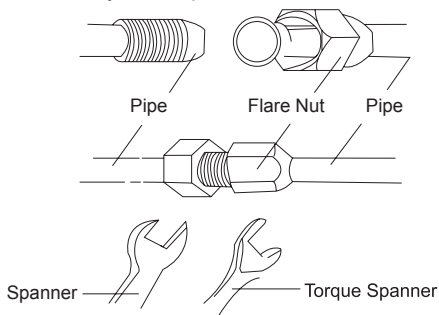

Fig.18
- (1). Let the flare end of the copper pipe point at the screw and then tighten the screw by hand.
- (2). After that, tighten the screw by the torque wrench until it clatters (as shown in Fig.18).